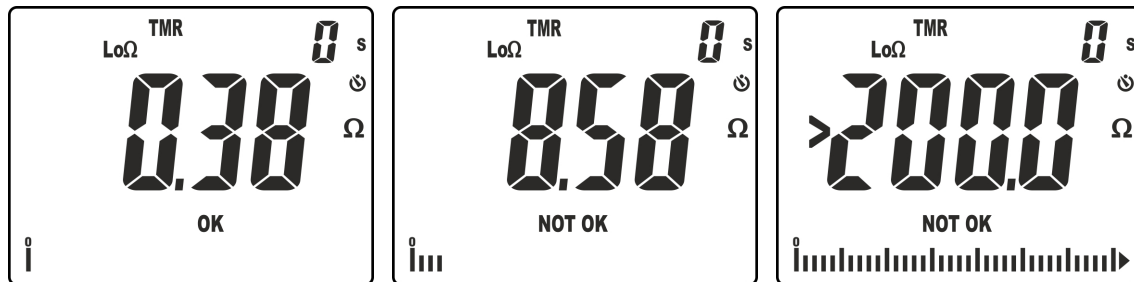

Fig. 31: Results of continuity test in TMR mode
10. In the screen in Fig. 31 – left side, a positive test result "OK" is shown (value lower than the set threshold and test current >200mA). In the screen in Fig. 31 – middle, a negative test result "NOT OK" is shown (value higher than the set threshold and test current <200mA). In the screen in Fig. 31 – right side, a negative test result "NOT OK" is shown, corresponding to the out-of-range condition (symbol ">200.0").